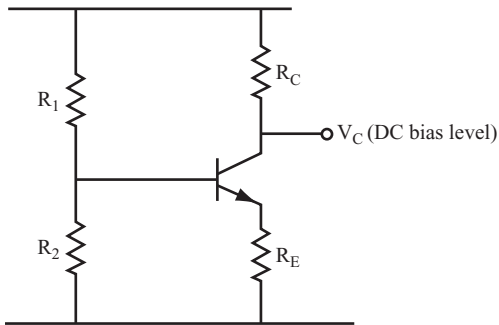

FIGURE 8.5
**11** You can overcome the instability of the transistor amplifier discussed in the first ten problems of this chapter by adding two resistors to the circuit. Figure 8.5 shows an amplifier circuit to which resistors  $R_E$  and  $R_2$  have been added.  $R_2$ , along with  $R_1$  (labeled  $R_B$  in the previous circuits), ensures the stability of the DC bias point.